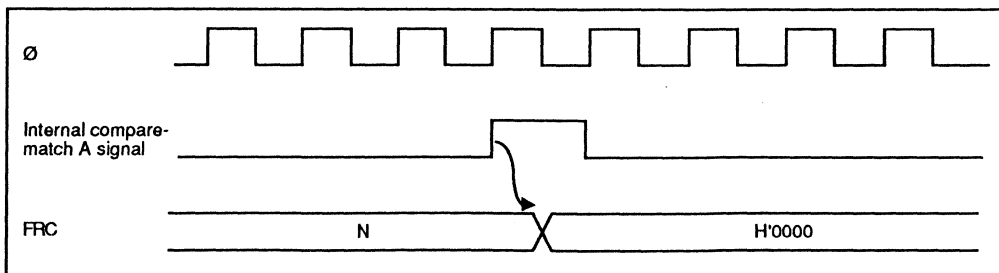

Figure 6-11. Clearing of FRC by Compare-Match A
(4) FRC Clear Timing: If the CCLRA bit in the TCSR is set to "1," the FRC is cleared when compare-match A occurs. Figure 6-11 shows the timing of this operation.